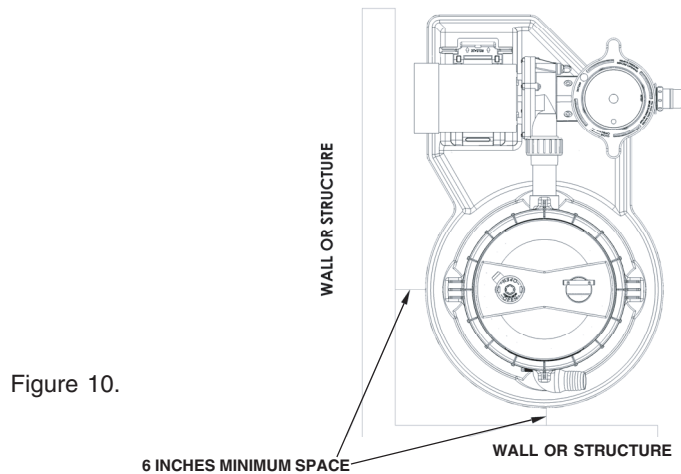

Figure 10.
5. Screw the hose adaptor, item number 711006, into the inlet port of the pump. This is the opening in the sidewall of the pump pot. Use Teflon™ tape on the threads and tighten no more than one (1) turn past hand tight. Connect the flex hose to this adaptor with a hose clamp and tighten with a screwdriver.
9. Provide sufficient clearance around the filter to permit visual verification that the lock ring is properly installed. See Figure 10.